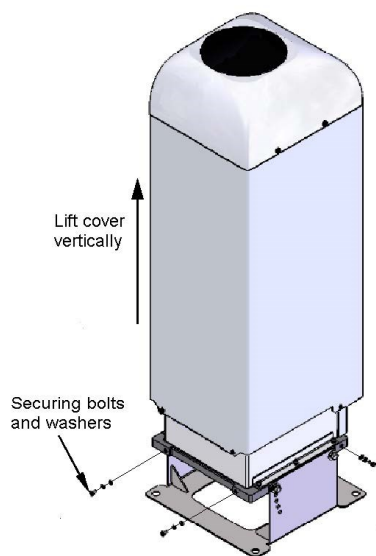

FIGURE 7-1. Removing the cover
1. Remove four screws (FIGURE 7-1 (p. 104)).